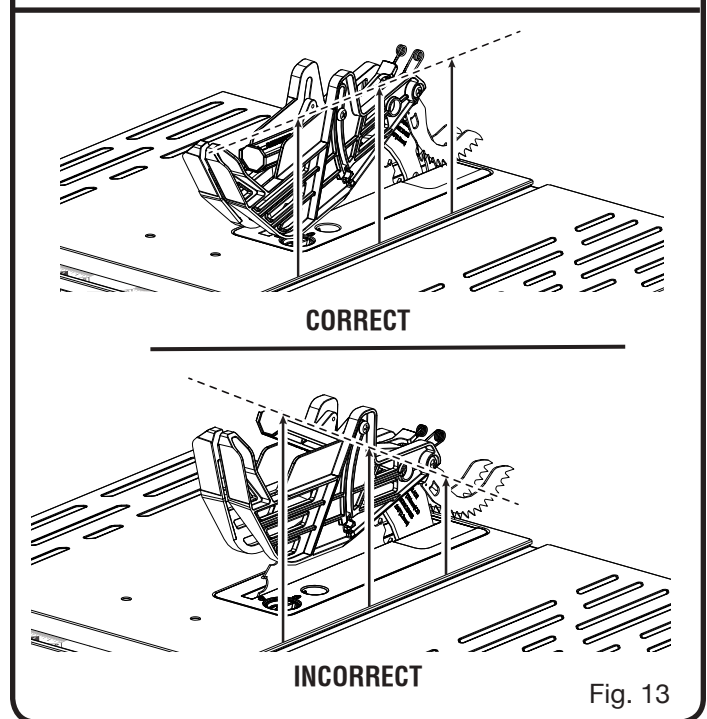

Fig. 13
- With the front of the blade guard raised, lower the back of the guard into the riving knife in the position shown. Push the front of the guard down until the bar inside the guard is **parallel to the table** (see figure 13). If the bar is not parallel to the table, the riving knife is not in the “up” position.